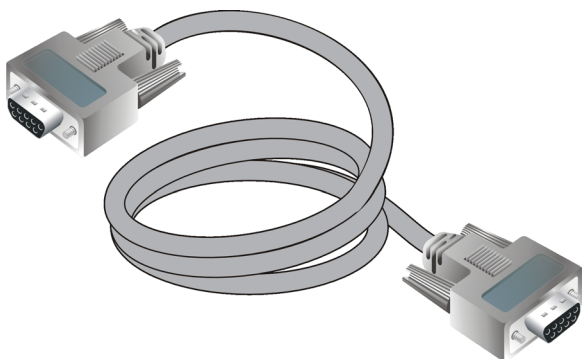

Figure 7 Null modem cable
- **Null modem cable**—An asynchronous RS-232 null modem cable (Figure 7) is required to configure director network addresses and acquire event log information through the maintenance port. The cable has nine conductors and DB-9 male and female connectors.